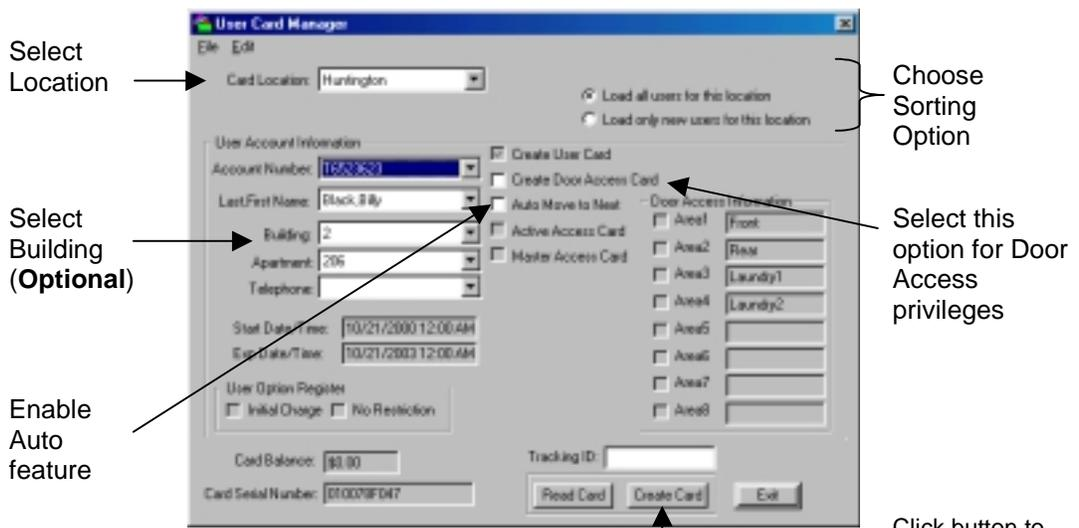

Figure 6.10 Creating Multiple User Cards
2. Select the users' location from the User Location drop down selection (Figure 6.10).
3. If cards are being created only for new users, select the "Load only new users for this location" option (Figure 6.10).
4. If cards are being created only for a specific building for this location, select the building from the Building drop down selection (Figure 6.10).
5. If these user cards are to be used for door access privileges, enable the "Create Door Access Card" option by clicking on it (Figure 6.10).
6. Enable the "Auto Move to Next" option (Figure 6.10). This will automatically go to the next new user to be created in the list.
8. Click the Create Card button (Figure 6.10).